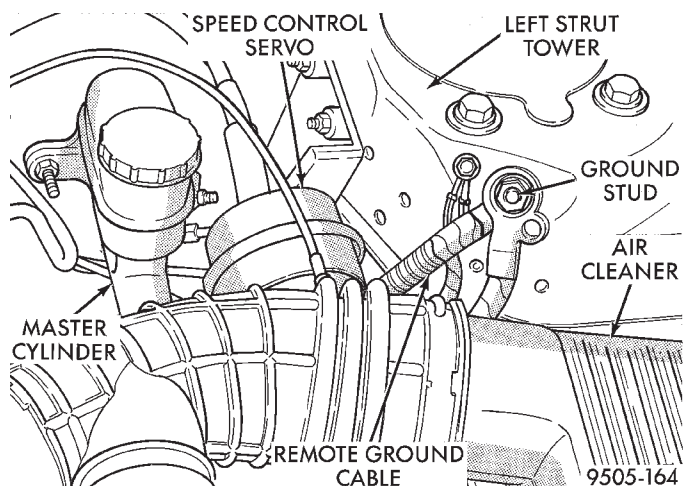

Fig. 11 Remote Ground Cable Attachment ToStrut Tower
(1) Remove the remote ground cable from the ground stud located on the left strut tower (Fig. 11).
(11) Install the remote ground cable onto the ground stud located on left shock tower (Fig. 11). Install the remote ground cable attaching nut and tighten to a torque of 28 N·m (250 in. lbs.).
(12) Bleed the base brakes and the ABS brakes hydraulic system. Refer to the Bleeding ABS System in this section of the manual for the proper bleeding procedure.
(13) Road test vehicle to ensure proper operation of the base and ABS systems.